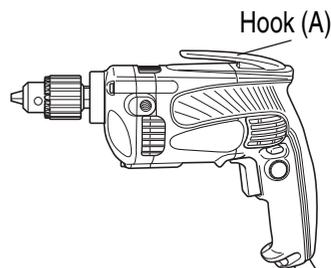

Fig. 13
9. Attaching the hook. (Optional accessory) (Fig. 13)